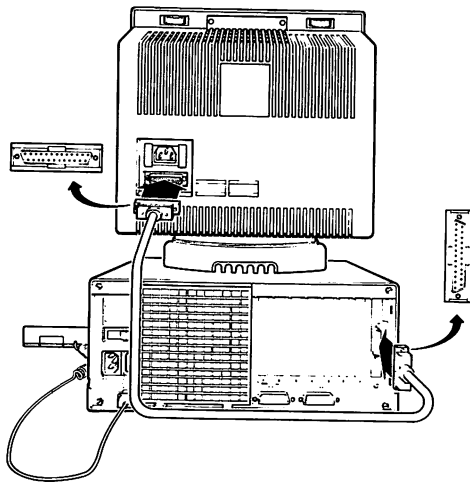
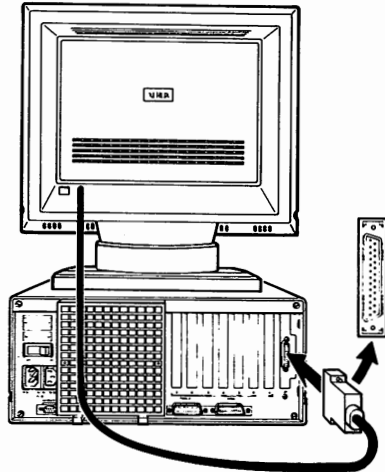

Figure 1-12. Connecting the color display cable.
Figure 1-13. Connecting the color display cable.
4. Look at the back of your color display to determine whether you have the display illustrated in Fig. 1-12 or the display illustrated in Fig. 1-13. (Notice that the display cable is not attached to the former unit, but is attached to the latter.)
If you have the display pictured in Fig. 1-12, go to Step 5. Go to Step 6 if you have the display pictured in Fig. 1-13.
- Look at the end of the plug with the pins. Notice that the ring around the pins is wider on one side. Turn the plug so that the wider side faces left, as shown in Fig. 1-12.
- Look at the end of the other plug. Notice that it too is wider on one side. Turn the plug so that the wider side is up (Fig. 1-12).
- Insert the plug into the connector at the bottom left corner of the rear of the display (Fig. 1-12). Tighten the screws.
- Look at the plug on the end of the display cable. Notice that the ring around the pins is wider on one side. Turn the plug so that the wider side faces left, as shown in Fig. 1-13.